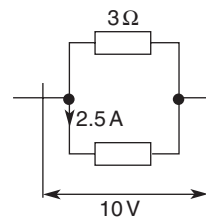

Fig. 23
6. Determine the voltage drop across the 4.5Ω resistor in Figure 23.